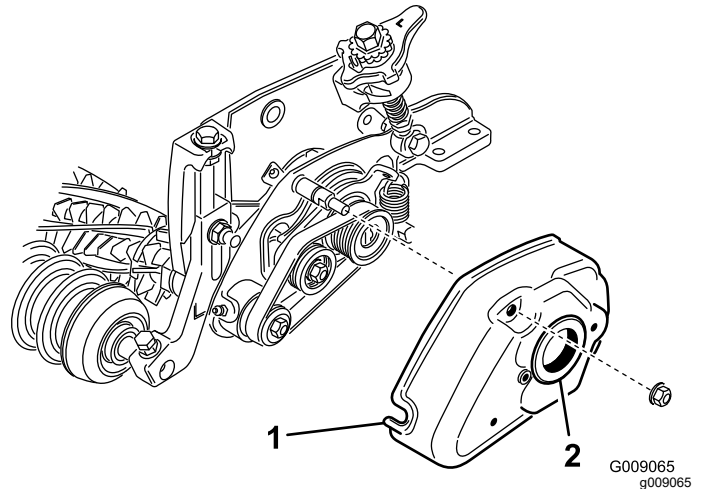

Figure 22
7. Install the groomer cover and secure with 2 flange nuts (5/16 inch) (Figure 22).
8. Apply grease to the inside diameter of the grommet in the groomer cover (Figure 22).